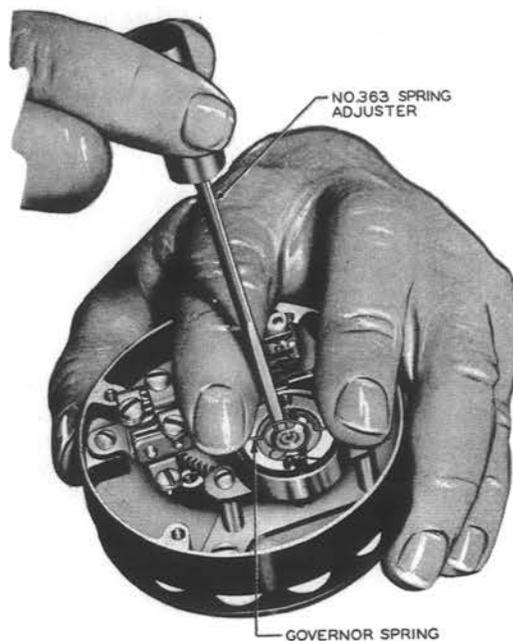

Fig. 25 — No. 363 Spring Adjuster
- (11) With the dial at rest, place the middle and index fingers over the ends of the governor spring, as shown in Fig. 25. This is to prevent
the governor spring from becoming dislodged while adjusting the governor spring. Insert the slot of the No. 363 spring adjuster in the upper loop of the governor spring midway between the weights, as shown in Fig. 25, and adjust as required. To increase the dial speed, twist the spring adjuster in a clockwise direction; to decrease the dial speed, twist the spring adjuster in a counterclockwise direction. Take care, when doing this, not to overbend the spring. If additional adjustment is required, bend the lower loop of the governor spring by twisting the spring adjuster counterclockwise to increase the dial speed, and clockwise to decrease it.
8. To add Fig. 25.